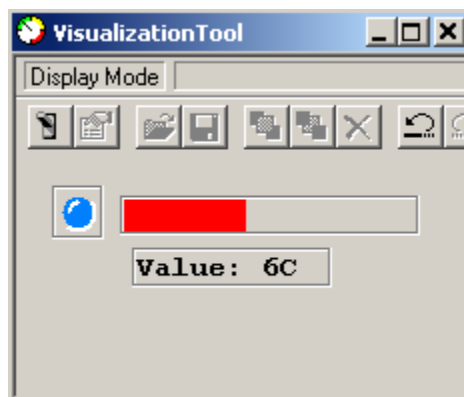

Figure 39. Visualization setup
16. Press **F5** to run, if it is not already running; see the results in Figure 39. If the **EditMode** button  is enabled, you can change the colors and fonts as you go along. Try changing the bar color to blue.